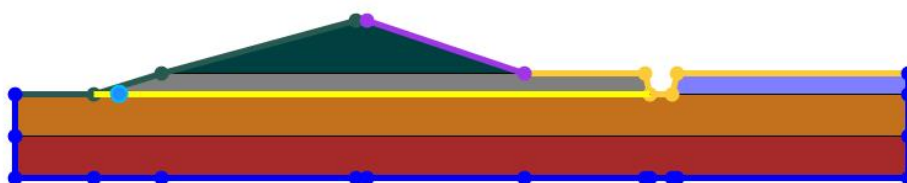

Figure 6.2: Cross-section example 2 including boundary conditions (Blue: No Flow, Green: Sea side Head, Purple: Polder side, Yellow: Polder level).
6. Assign boundary conditions to the geometry. In the D-Geo Flow Model window, click on the geometry boundary lines and assign per line the relevant boundary condition in the Properties window. Multiple lines can be selected at once by dragging a square around the lines or by pressing the *ctrl* key and selecting multiple lines. In Figure 6.2, it is shown how the boundary conditions should be assigned. Note that the boundary conditions are to be assigned on both the lines and the nodes.